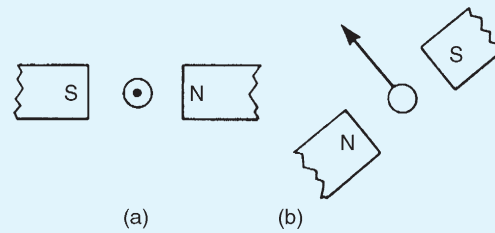

Figure 8.20
3. For the current-carrying conductor lying in the magnetic field shown in Fig. 8.20(a), the direction of the force on the conductor is:
4. For the current-carrying conductor lying in the magnetic field shown in Fig. 8.20(b), the direction of the current in the conductor is: